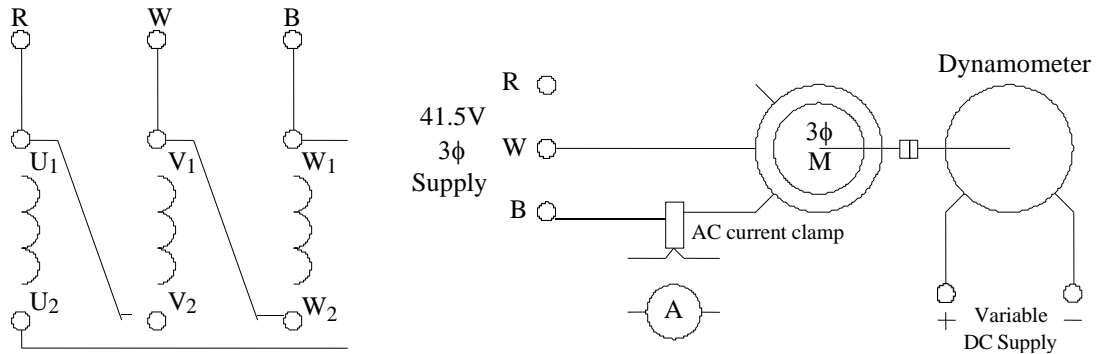

Figure 1
1. Connect the motor in delta as shown in figure 1 with the dynamometer attached.